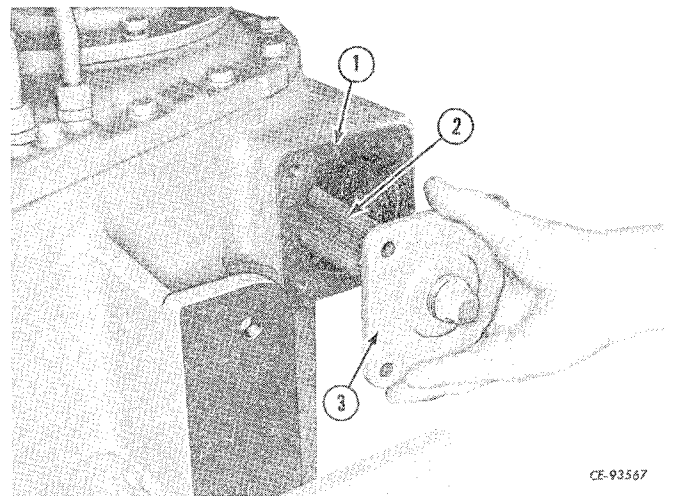

Figure 4-27
Place transmission in stand (see "SPECIAL TOOLS") so the cover end is up. Remove the suction strainer retainer (3, Fig. 4-27) gasket (1) and strainer (2).